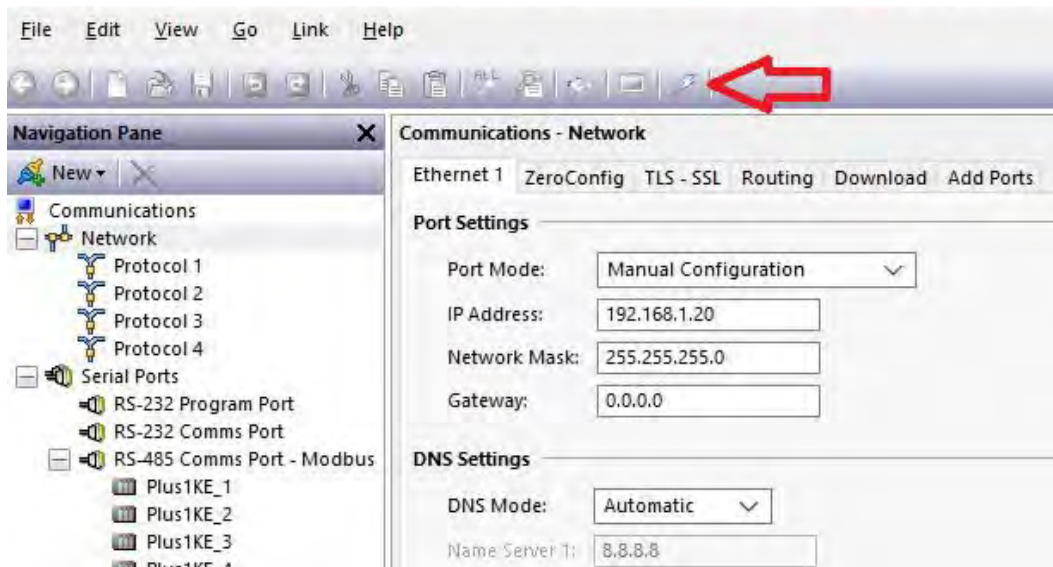

Fig. 19 Red Lion Crimson 3.0/3.1 Main Page
4. Download the database using the Link>Update command. As a shortcut, use the Update symbol on the toolbar. See FIG. 19.